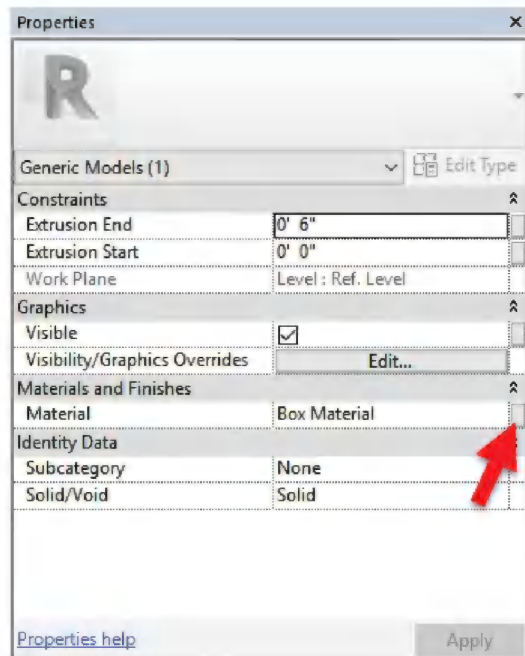

FIGURE 15-4.18 Mapping material to parameter
36. Click the small mapping icon to the far right of the **Material** Parameter (see Figure 15-4.18).